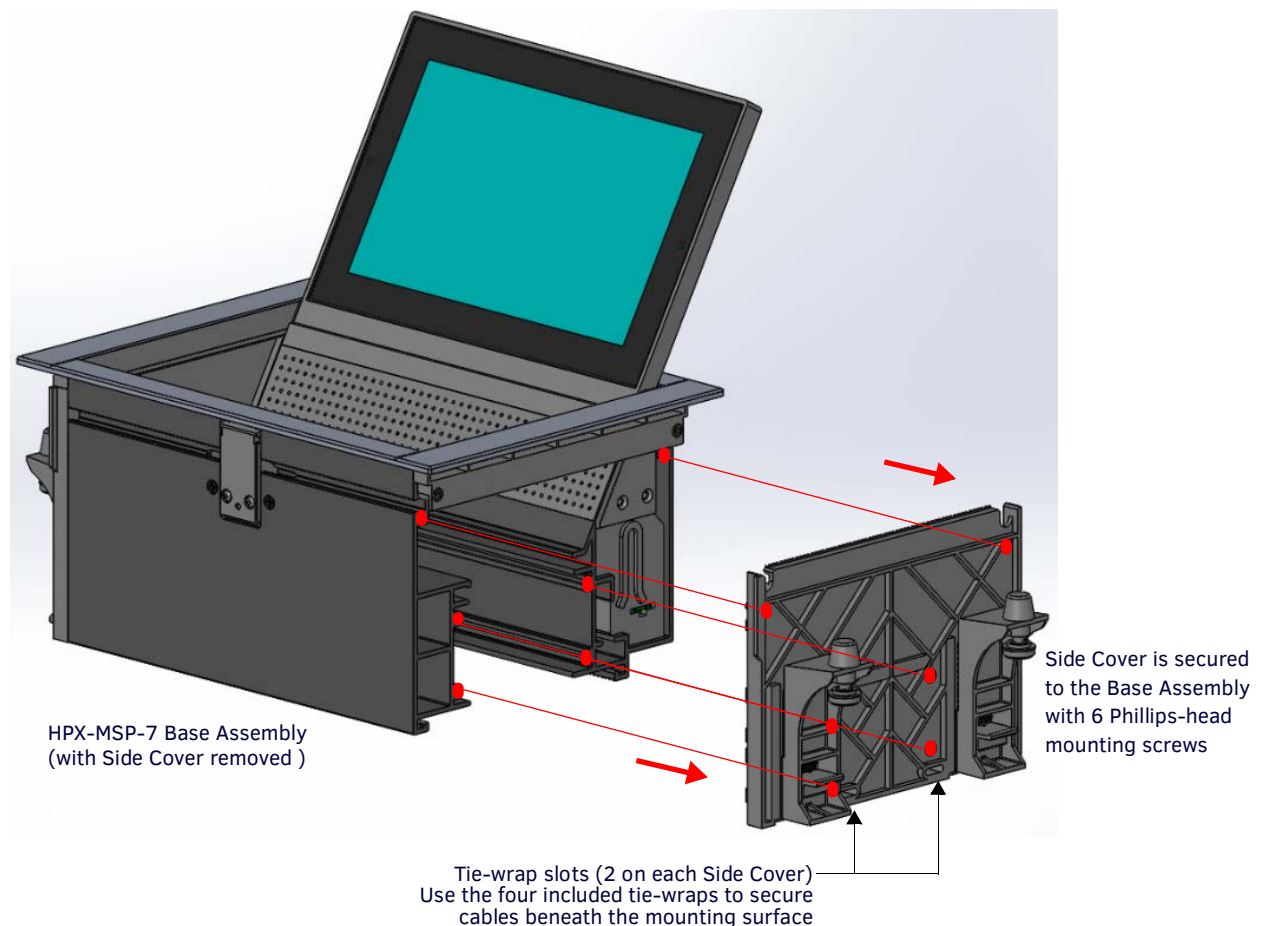

FIG. 4 Removing the Side Cover (HPX-MSP-7)
- There are six Mounting Screws on the HPX-MXP-7 (FIG. 4): .
- There are **seven** Mounting Screws on the HPX-MXP-10 (FIG. 4): .
2. Gently lift one end of the Side Cover to free it from the enclosure, then carefully pull the opposite side to remove it. Note that with the Side Cover removed, the mounting rails (inside the enclosure) are accessible (see FIG. 4).